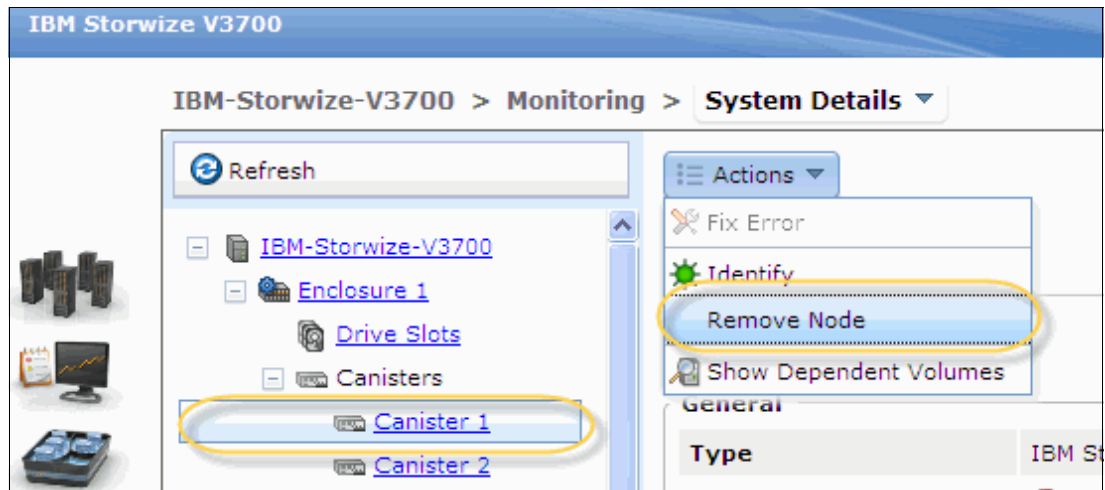

Figure 9-33 Remove the non-config node from cluster
3. In the management GUI, select **System Details** and then select the canister that contains the node you want to upgrade next. As shown in Figure 9-33, select **Remove Node** on the action menu.